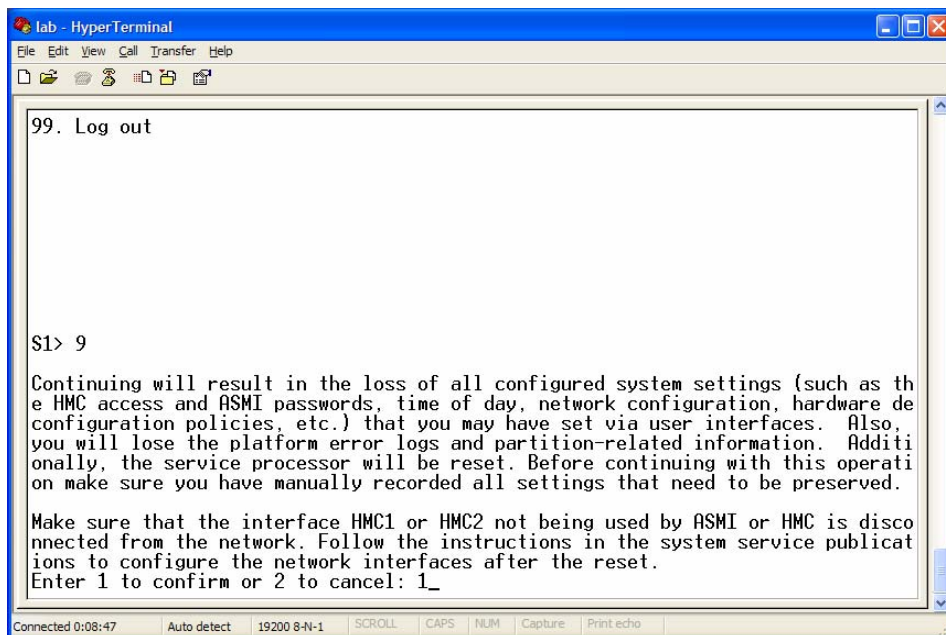

Figure 8. Viewing the informational warning screen when resetting to **Factory Configuration**
- iv. You see an important informational screen as shown in Figure 8. This screen warns you that continuing will result in the loss of all configured system settings. If you are sure you want to continue, type 1 to confirm that you do want to reset your System p model to its IBM factory settings. Then, press **Enter**.